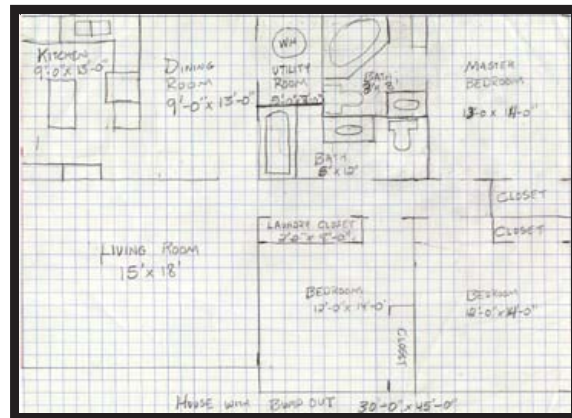

Figure 6
Draw the house using the architect's scale and the floor plan worksheet as shown in **figure 6** or in
- Each room must be labeled and the room size given as in **figure 6 & 7.**